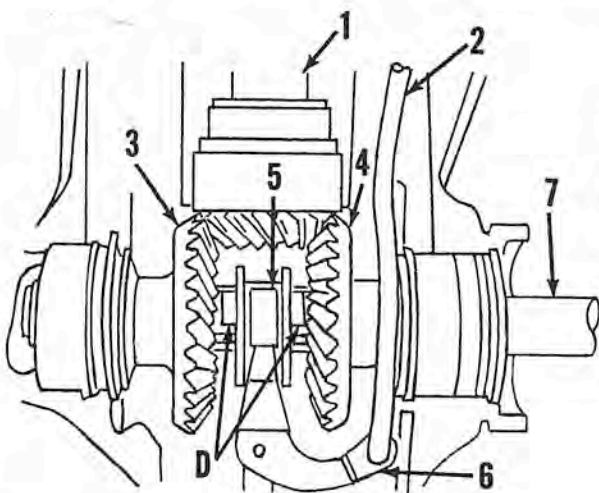

Fig. J112 — Schematic view of gearcase assembly showing shifting mechanism.
**ADJUSTMENT.** The lower unit drive pinion (1—Fig. J112) is coupled to the engine crankshaft. Forward gear (3) and reverse gear (4) are meshed with drive pinion and rotate constantly in opposite directions on propeller shaft (7). Drive collar is splined to the propeller shaft. Forward and reverse driving gears are obtained by shifting drive collar on propeller shaft until the dogs (D) engage similar lugs in either the forward gear (3) or reverse gear (4) to cause the propeller shaft to rotate. Neutral position is obtained when neither gear is coupled as shown in Fig. J112.